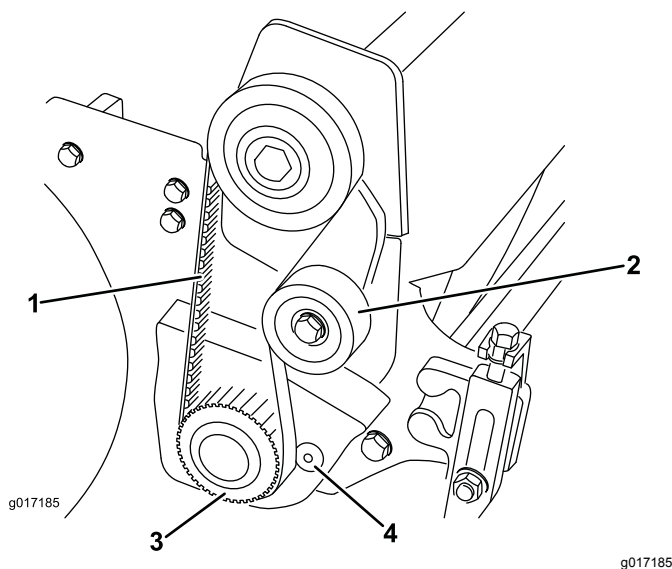

Figure 18
2. Loosen the idler pulley to relieve the belt tension and remove the reel-drive belt from the pulleys (Figure 18).
3. Using a 1/2 inch drive ratchet and extension, remove the drive pulley from the reel shaft (Figure 18).
5. Remove the 2 flat-head screws and nuts securing the groomer arm cover to the bearing housing and side plate (Figure 18).